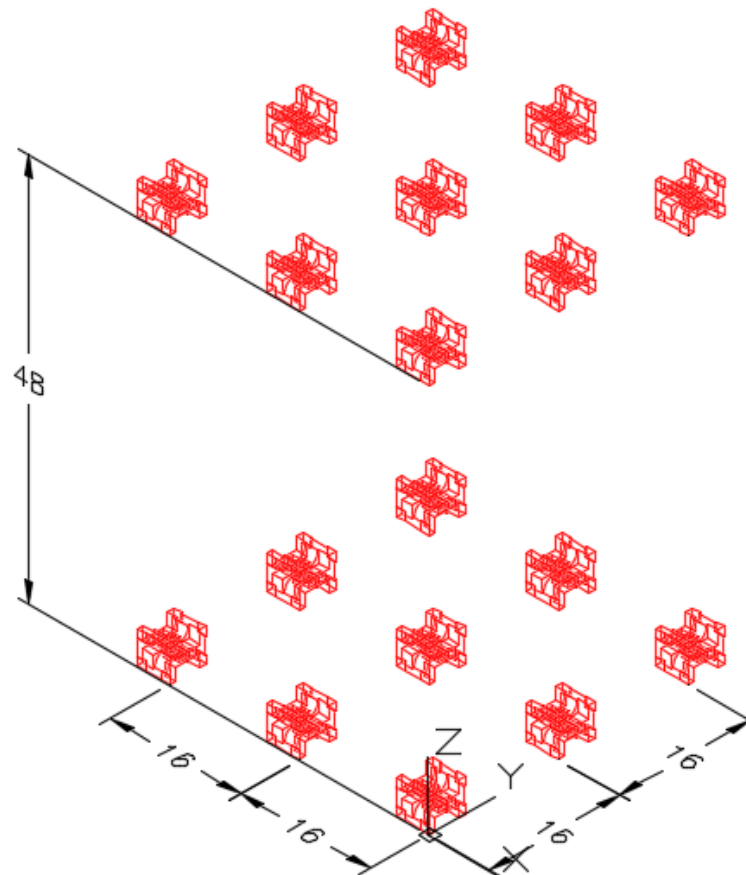

Figure Step 5
Step 5 Array the model to match the figure. Keep the location of the WCS in mind when you are executing the array. (Figure Step 5)